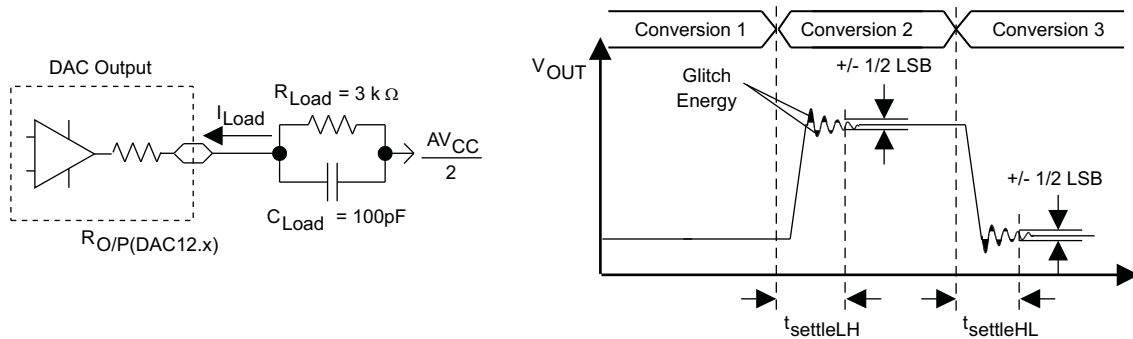
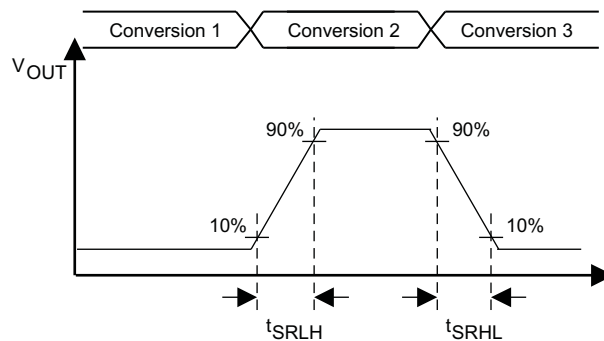

Figure 5-24. Settling Time and Glitch Energy Testing
Figure 5-25. Slew Rate Testing
$V_{ref} = V_{CC}$ , DAC12IR = 1, over recommended ranges of supply voltage and operating free-air temperature (unless otherwise noted) (see Figure 5-24 and Figure 5-25)
- (1)  $R_{Load}$  and  $C_{Load}$  connected to  $AV_{SS}$  (not  $AV_{CC}/2$ ) in Figure 5-24.
(2) Slew rate applies to output voltage steps  $\geq 200$  mV.